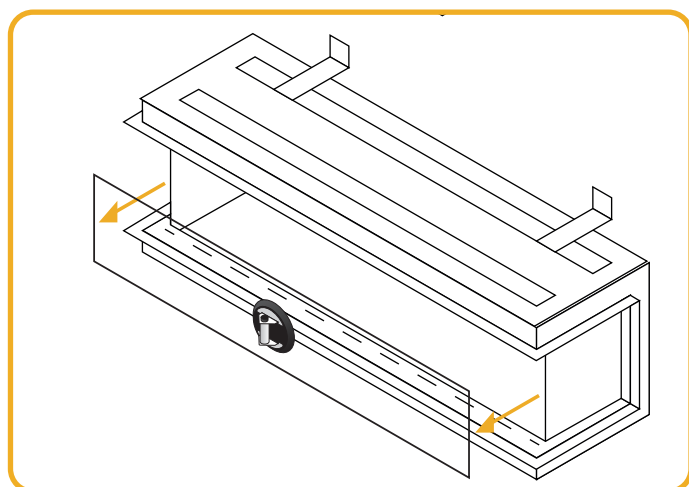

Figure.9.4 | Carefully remove the glass
- Carefully remove the front glass. See Figure 9.4. For bigger models like the **150e**, **180e** and **240e** a suction cup is included. It is recommended to do remove the front glass with two people.